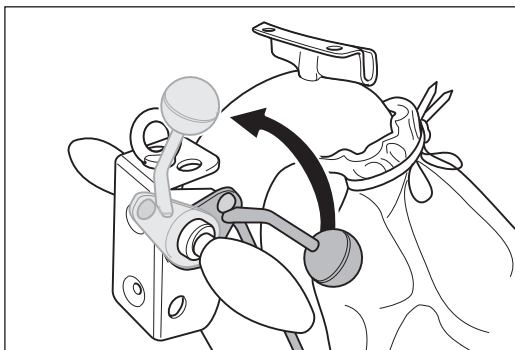

Fig. 34 Lift the sanding drum off the floor by turning the lowering lever at the handle upwards.
- 1 Lift the sanding drum off the floor by turning the lowering lever at the handle upwards (fig. 34).
- **Always lift the sanding drum off the floor before switch on the machine (fig. 34)!**
- 1** Lift the sanding drum off the floor by turning the lowering lever at the handle upwards (fig. 34).